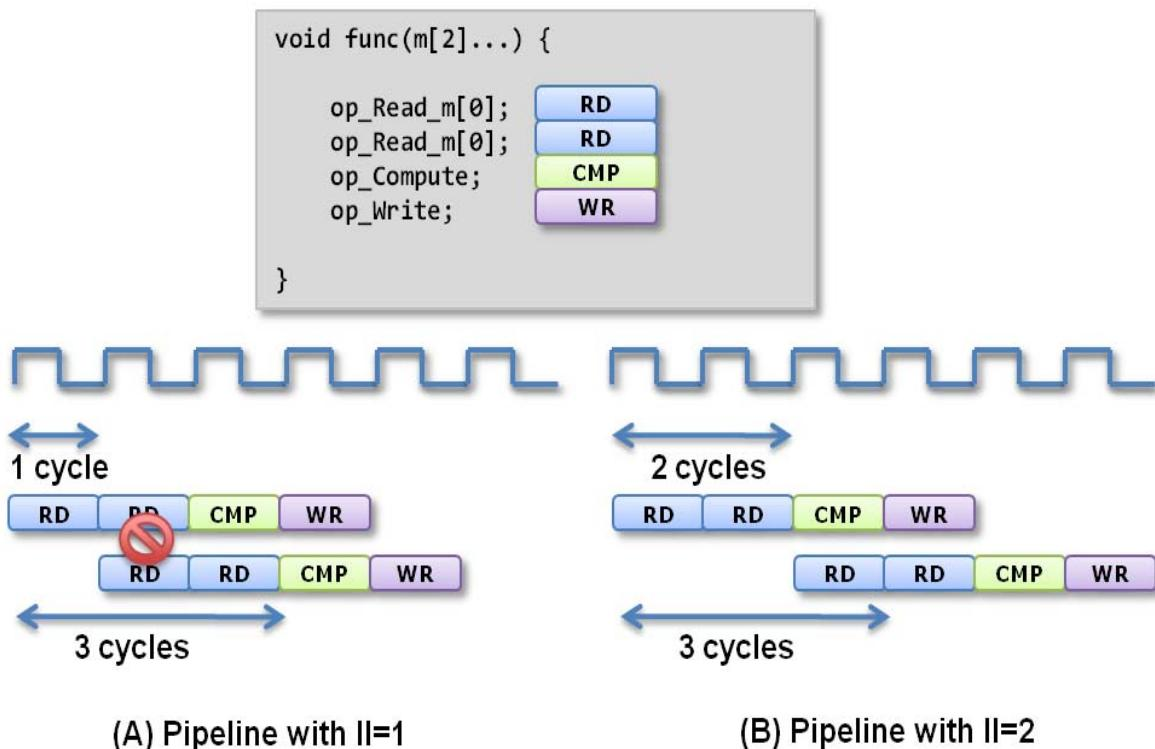

Figure 1-63: Pipeline Resource Contention
Function pipelining is only possible so long as there is no resource contention or data dependency that prevents pipelining. For example, in Figure 1-63 below, assume the input array "m[2]" is implemented with a single-port RAM. The function cannot be pipelined, as shown in Figure 1-63 (A) because the two reads operations on input "m[2]" ("op_Read_m[0]" and "op_Read_m[1]") cannot be performed in the same clock cycle.
In Figure 1-63 (A) the initiation interval is 1 because a new operation is performed every clock cycle. In Figure 1-63 (B) an initiation interval of 2 is used - there is no longer any resource contention on the input port - and the function can be successfully pipelined.
Review sections "Array Optimizations" and "Controlling Hardware Resources" for more details on analyzing resource contention if pipelining fails to achieve the desired initiation interval. The resource contention issue in Figure 1-63 could also be solved by using a dual-port RAM for array "m[2]", allowing both reads to be performed in the same clock cycle.